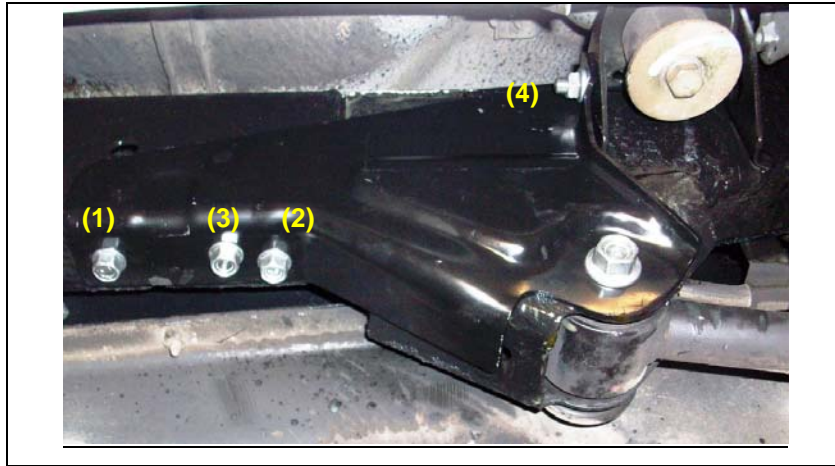

Figure 29
20. Torque bolts in the sequence and to the specifications shown in Figure 29.